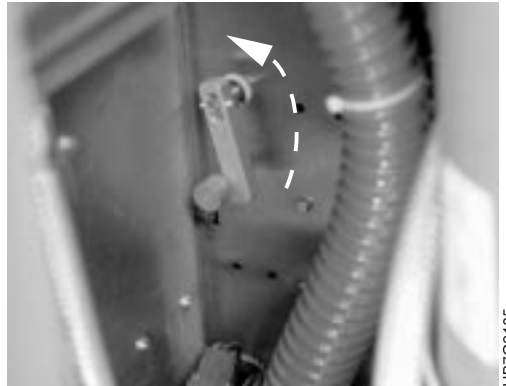

Figure 278. Torque Roll Backup Roll Pressure Handle
- Find the small handle, as shown in Figure 278 on page 349, which is located at the back and right of the fixed tower, below the dust filters. There are two machine configurations. If you do not see the handle, continue with step 6 on page 349 to locate the handle in an alternate location.